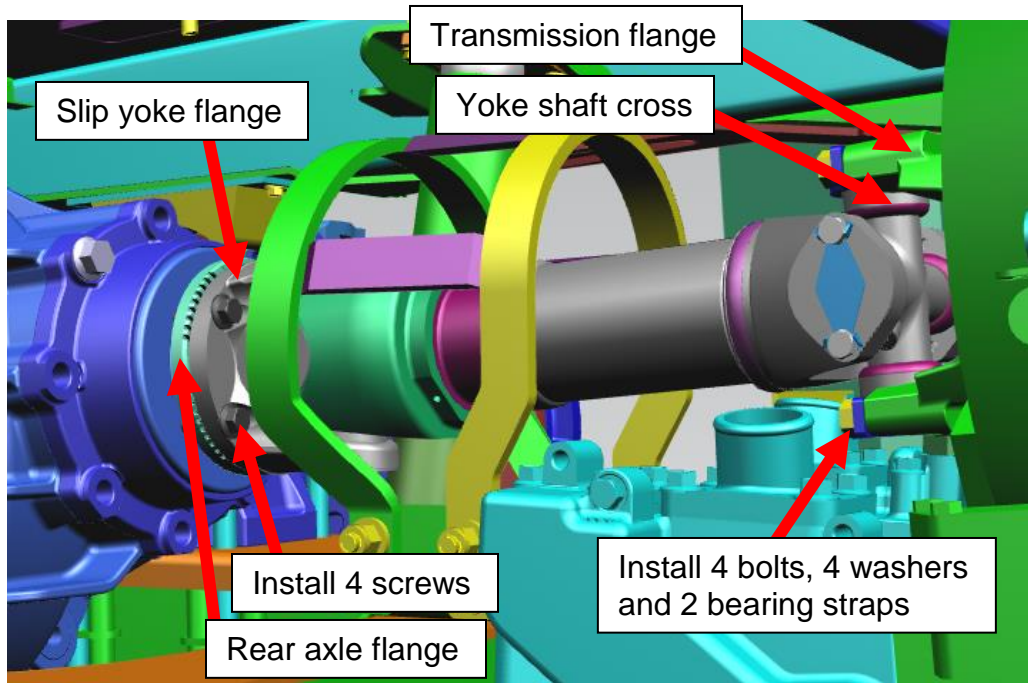

Figure 16: New installed driveshaft on Bus# 1252
9. Mount the yoke shaft cross to the transmission flange and the slip yoke flange to the rear axle flange. Rotate axle for better visibility of hardware. See figure 16.